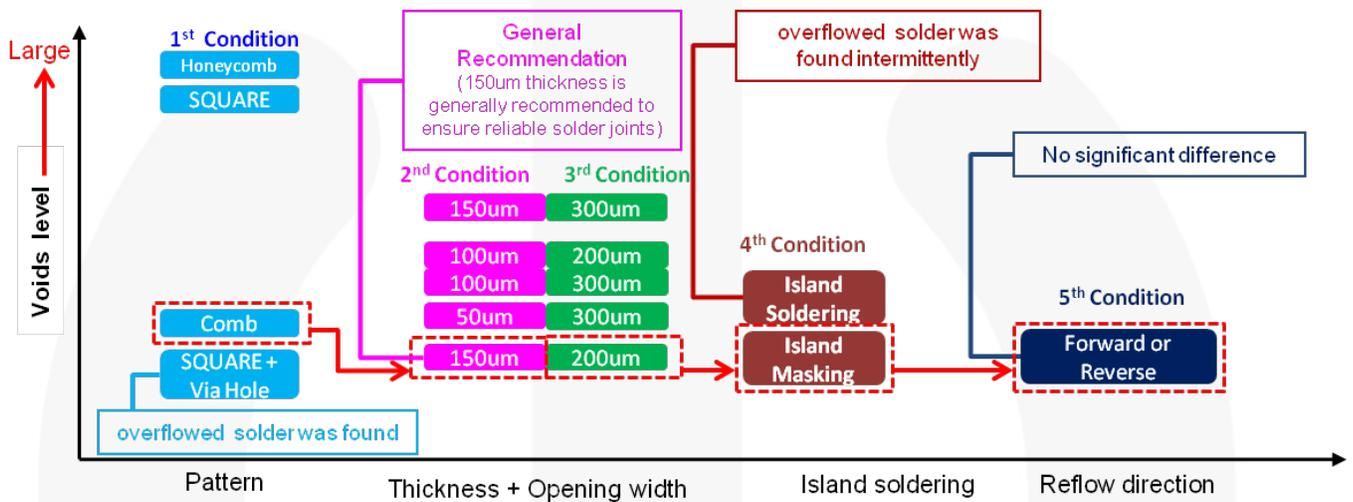

Figure 15. Chart for Selection of Recommended Conditions
Figure 15 shows the guidelines for selecting recommended conditions related to stencil design.
2. Soldering condition is based on the recommended condition in Figure 15.